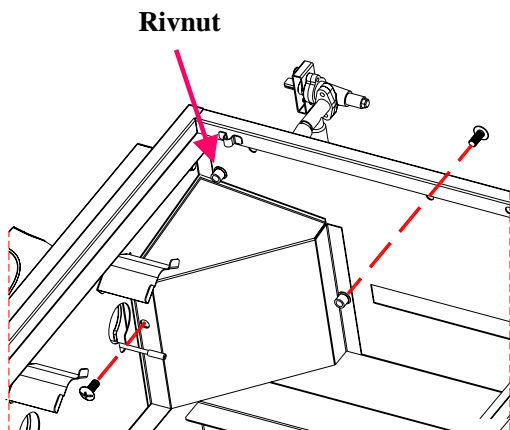

Fig.11
*Locate:* HVR Cover and (2) M6x15 bolts
*Procedure:* Refer to Fig. 11 and set the HVR Cover in the front corner of the Gas Grill Cabinet, so that it covers the actual HVR where it enters and exits the Cabinet. Fasten in place with (2) M6x15 bolts.